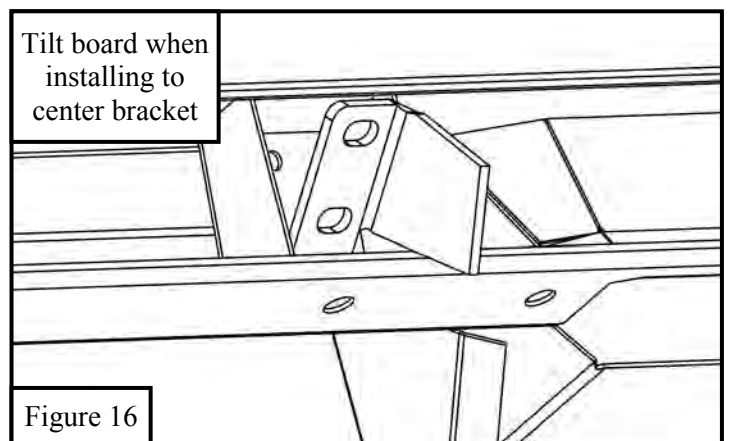

Figure 16
15. Tilt Board at an angle to insert center brackets into board mounting location. See **Figure 16**